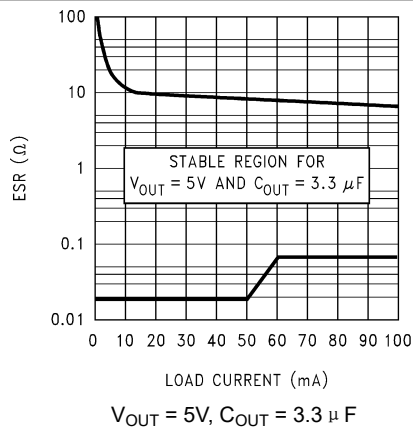
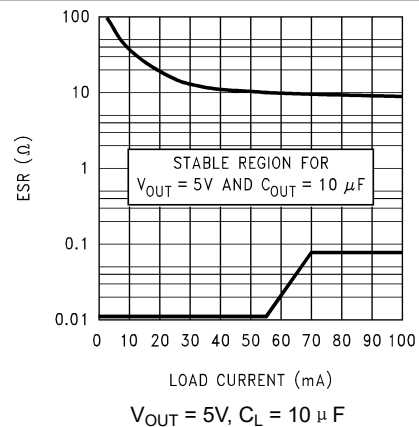
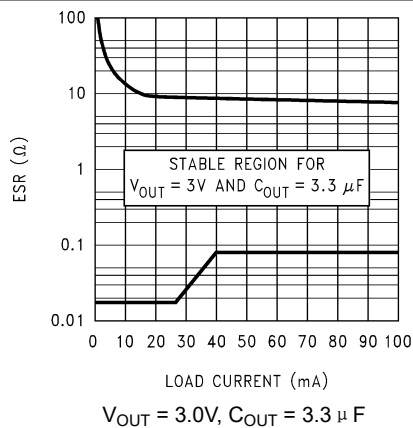
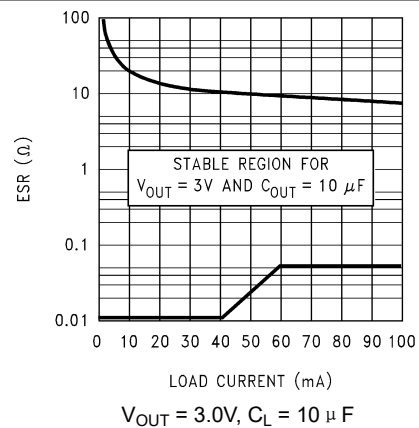

图 7-3. 5V, 3.3 μF ESR Curves (Legacy Chip)
图 7-4. 5V, 10 μF ESR Curves (Legacy Chip)
图 7-5. 3.0V, 3.3 μF ESR Curves (Legacy Chip)
图 7-6. 3.0V, 10 μF ESR Curves (Legacy Chip)
The output capacitor must meet both the requirement for minimum amount of capacitance and equivalent series resistance (ESR) value. Curves are provided that show the allowable ESR range as a function of load current for various output voltages and capacitor values (see 图 7-3, 图 7-4, 图 7-5, and 图 7-6).
- ESR range: See 图 7-3, 图 7-4, 图 7-5, and 图 7-6.